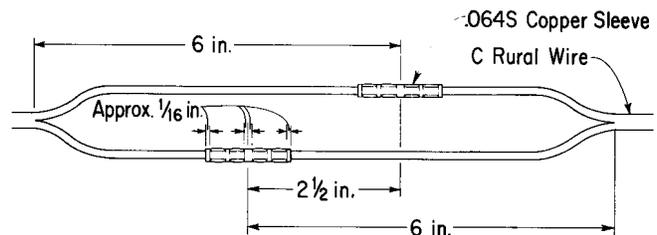

Fig. 4—C Rural Wire Complete With Presses
- (1) Slit end of wire of pair No. 1 with the wire slitter for 6 inches.
- (2) Cut off 2-1/2 inches of one of the separated conductors in order to stagger the joints.
- (3) Remove insulation from both conductors with the wire slitter for a distance of a little more than half the length of an 064 S copper sleeve (5/8 inch).
- (4) Prepare conductors of pair No. 2 as described for pair No. 1. **IT IS IMPORTANT THAT LEGS OF SPLICE BE OF EQUAL LENGTH SO AS TO EQUALIZE THE TENSION BETWEEN CONDUCTORS.**
- (5) Slip an 064 S copper sleeve over each skinned conductor of pair No. 1, making sure the conductor is in the sleeve up to the constriction. Crimp each sleeve lightly with diagonal pliers to hold sleeve in place until presses are made.
- (6) Match long and short conductors and insert conductors of pair No. 2 into sleeves on conductors of pair No. 1, making sure they are in the sleeve up to the constriction. Straighten legs of splice, and if one leg is found to be shorter than the other, adjust ends of pair No. 2 until the legs of splice are of equal length. Crimp the sleeves lightly with diagonal pliers to hold conductors of pair No. 2 in position until presses are made.
(7) Using the C groove of the 31-QC Nicopress Tool, (Fig. 4), make two presses each side of the constriction for each sleeve. Make the two inside presses first, starting approximately 1/16 inch each side of the constriction. The two presses at the ends of the sleeve should be located approximately 1/16 inch from the ends.
(8) Using 3/4-inch DR tape, wrap each sleeve with two reversed half-lapped layers starting in the center and extending the tape 3/4 inch beyond each end of each sleeve.
(9) Wrap the entire splice and 1/2 inch beyond the ends of the slit with one half-lapped layer of D vinyl tape starting at one end.